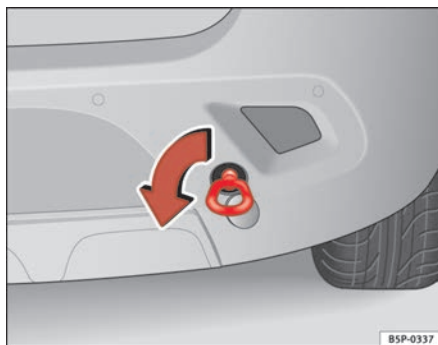

Fig. 200 Fitting the towing eye to the rear of the vehicle
- Screw the towing eye as shown by the arrow *anti-clockwise* to the limit position in the front ⇒ fig. 199 or rear ⇒ fig. 200 threaded hole. ■